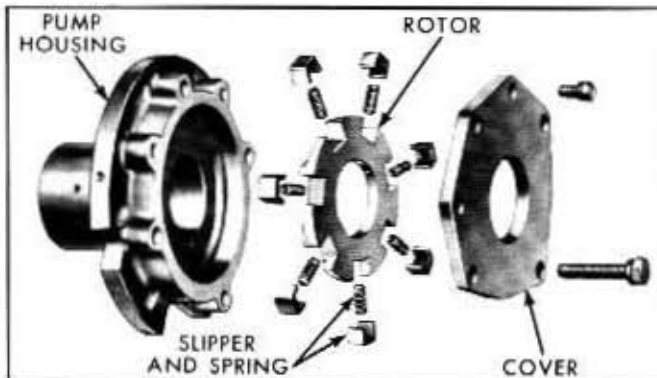

Fig. 7A-20—Rear Pump—(60C-4420)
2. Remove the rotor, slippers and springs. Refer to figure 7A-20.